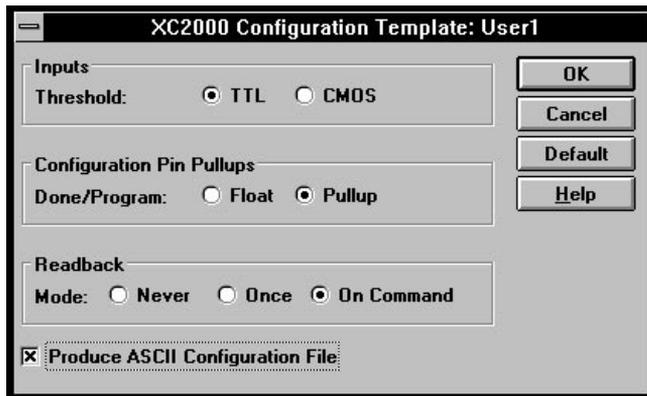

Figure 3-6 Design Manager Configuration Dialog Box (XC2000)
3. Click on the Edit Template button corresponding to the **Configuration Program Options** template. The bitstream Configuration dialog box is displayed, as shown in Figure 3-6.
2. Enable the readback capability by specifying the **Readback** option as **On Command** on the Configuration dialog box, as shown in Figure 3-6.